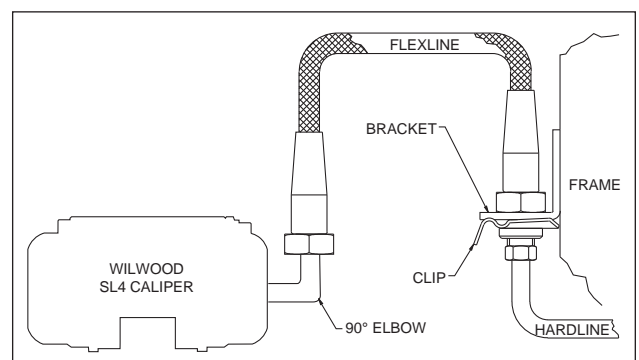

Figure 4. Brake Line Diagram
- Remove the caliper center bridge pad retainer bolt, nut, and tube from the caliper. Insert the brake pads (10) into the caliper, with the friction material facing the rotor, as shown in Photo 3. Check that the top of the brake pad is flush with the outside diameter of the rotor, Photo 4. If not, adjust by adding or subtracting shims (7) between the caliper and the bracket. After the caliper pad height is set, torque the caliper lock nuts (4) to 30 ft-lb. Secure the brake pads in place with the center bridge pad retainer tube, bolt, and locknut. The locknut should be snug without play in the bolt or tube. Be cautious not to over tighten.
- NOTE:** *OEM rubber brake hoses generally cannot be adapted to Wilwood calipers. The caliper inlet fitting is a 1/8-27 NPT.* The preferred method is to use steel adapter fittings at the caliper, either straight, 45 or 90 degree and enough steel braided line to allow for full suspension travel. **Carefully route hoses to prevent contact with moving suspension, brake or wheel components.** Wilwood offers optional stainless steel braided flex line hose kit, part number 220-8173 for C-5, part number 220-9101 for C-6 (NOT included in kit), see Figure 4. **NOTE:** *Wilwood hose kits are designed for use in many different vehicle applications and it is the installer's responsibility to properly route and ensure adequate clearance and retention for brake hose components.*